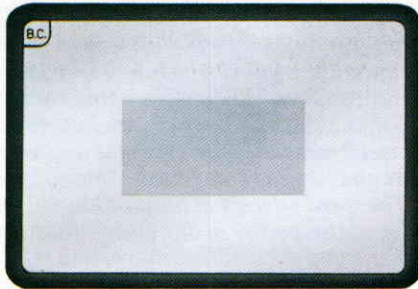

Fig. 22
*The Rolleiflex SL 2000 F has a battery check built into the upper left corner of the viewfinder. It is in the form of an LED behind the letters "BC" as shown in fig. 22.*